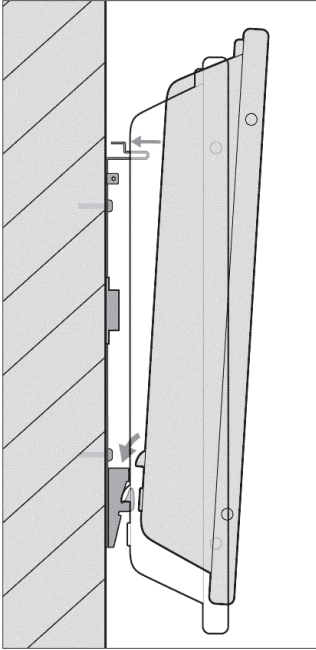
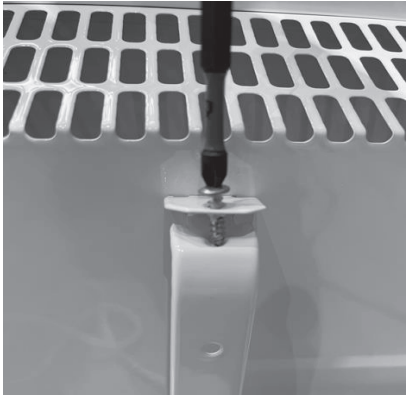

Fig.6
Fig.7
- 6. Once the wall bracket is mounted firmly to the wall, secure the raised openings on the lower back of the panel heater to the two hooks located on the lower vertical bars of the wall mount bracket. Push the top half of the panel heater so the prongs on the top of the two vertical bars are locked to the holes located behind the panel heater (Fig. 6). Use the screws to secure the prongs to hold the back of the panel heater firmly (Fig. 7).